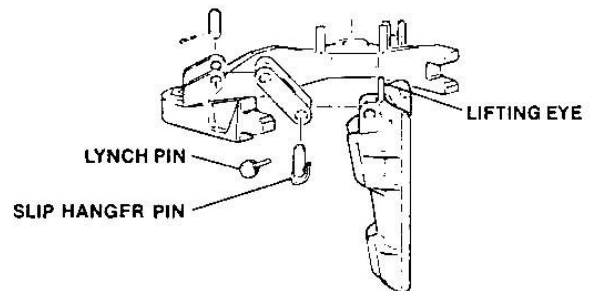

Figure 3-1. Changing Slips
- a. Removing Slips (Figure 3-1).